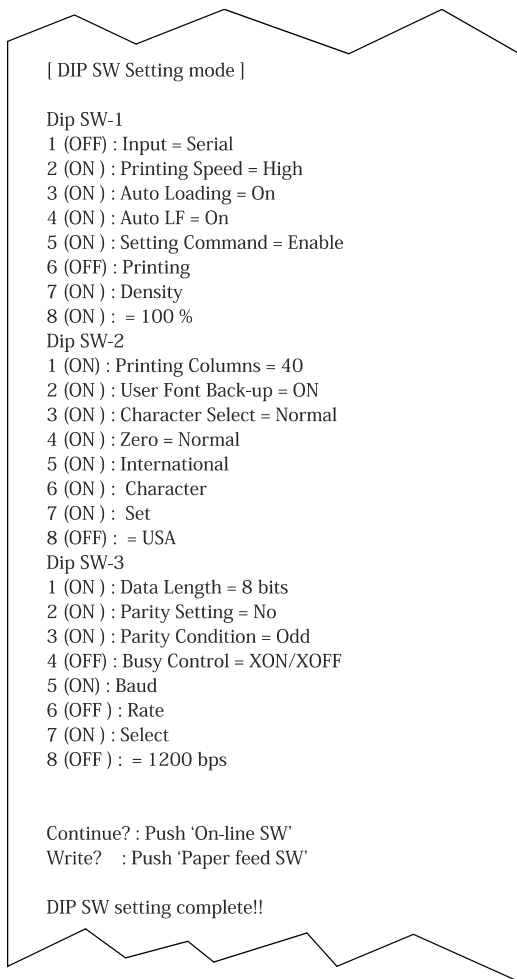

Figure 5-3. DIP Switch Settings for Printer
The thermal printer (P/N 850040Z) has internal DIP switches set by the manufacturer. For proper operation, these switches must be set as shown (Figure 5-3). Check and, if necessary, set the switches as follows:
- 1 Slide power switch to OFF position (0), then slide power switch to ON position (I) while pressing and holding **ON LINE** button.
- 2 Release **ON LINE** button after list of current DIP switch settings (Figure 5-3) begins to print. When list of settings is complete, a prompt appears at the bottom of the printout: